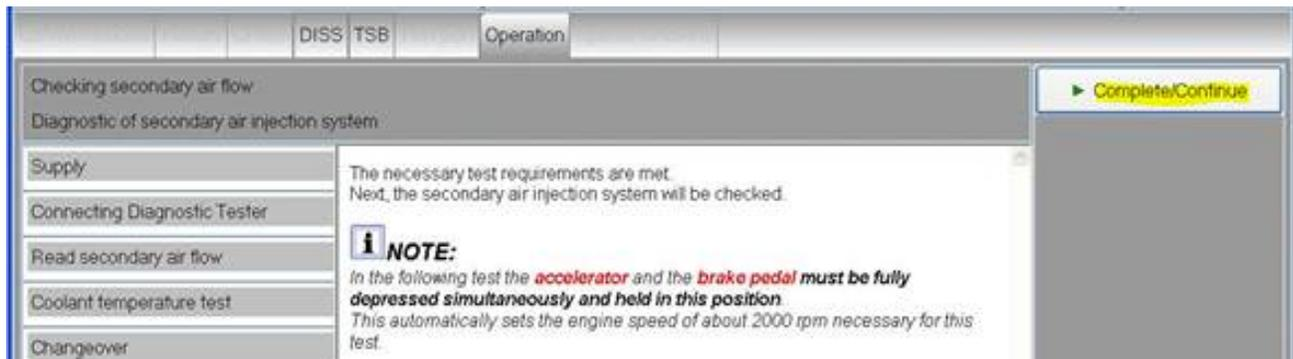

Figure 5. Secondary air pump activation
7. During the next part of the test, the secondary air pump will be activated (Figure 5). Check that it is running normally (no unusual noises) and check that there is no leak in the hoses between the secondary air pump and combi valves.